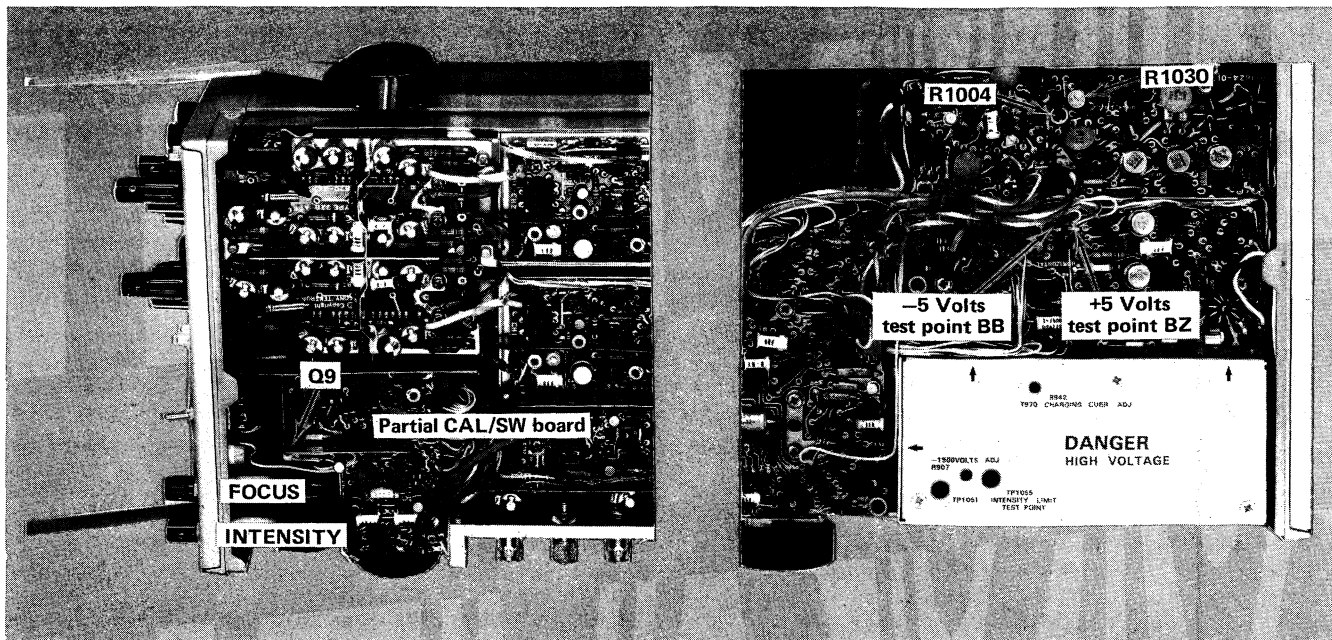

Fig. 5-9. R1030, -5 V supply adjustment and test point BB, R1004, +5 V supply adjustment and test point BZ, Q9, FOCUS, and INTENSITY locations.
b. Remove Q9 from its socket on the CAL/SW circuit board (see Fig. 5-9).
c. ADJUST—R1004 (see Fig. 5-9 for location) for a meter reading of  $0.500$  volt.
e. Connect the precision DC voltmeter between terminal 'BZ' on the Horizontal board (see Fig. 5-9 for location) and chassis ground.
a. Connect the precision DC voltmeter between terminal 'BB' on the Horizontal board (see Fig. 5-9 for location) and chassis ground.
b. ADJUST—R1030 (see Fig. 5-9 for location) for a meter reading of  $-5$  volts,  $\pm 25\ \text{mV}$ .
- d. CHECK—the Test Oscilloscope display for ripple of each supply while varying the external DC voltage supply between +9 volts and +32 volts. Table 5-4 lists the supply voltage limits, ripple limits, and location of test point for each supply. See Fig. 5-9 and 5-10.